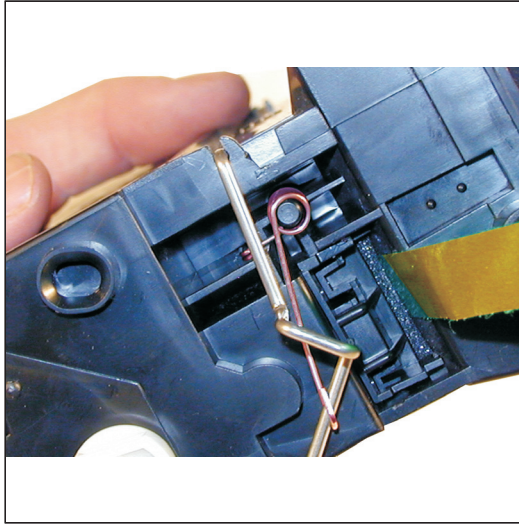

Figure 39
32) On the small gear (non- helical) side, install the drum cover spring as shown. (The spring has been colorized to show its position more clearly. See Figure 39